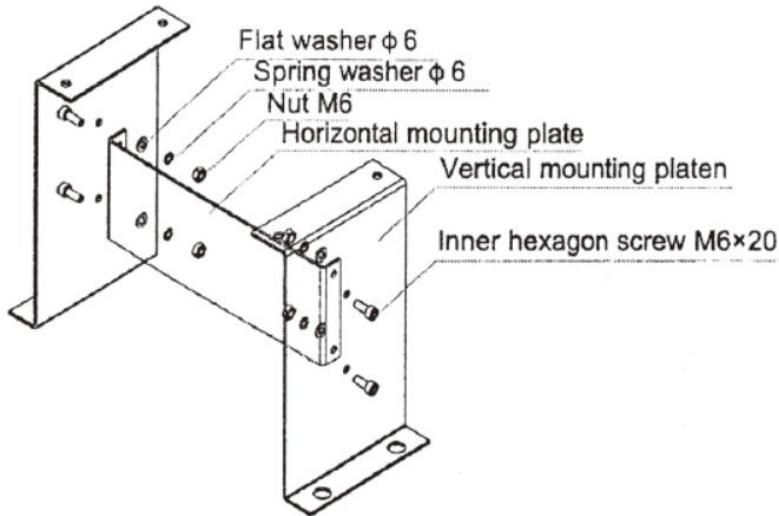

Figure 5
- If select the detachable mounting base, the base should be assembled first as shown in Figure 5: